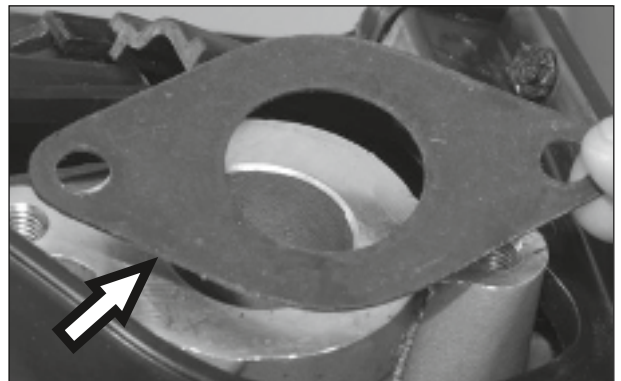

Fig. 3.33
- Remove the gasket pipe intake.( Fig. 3.33)